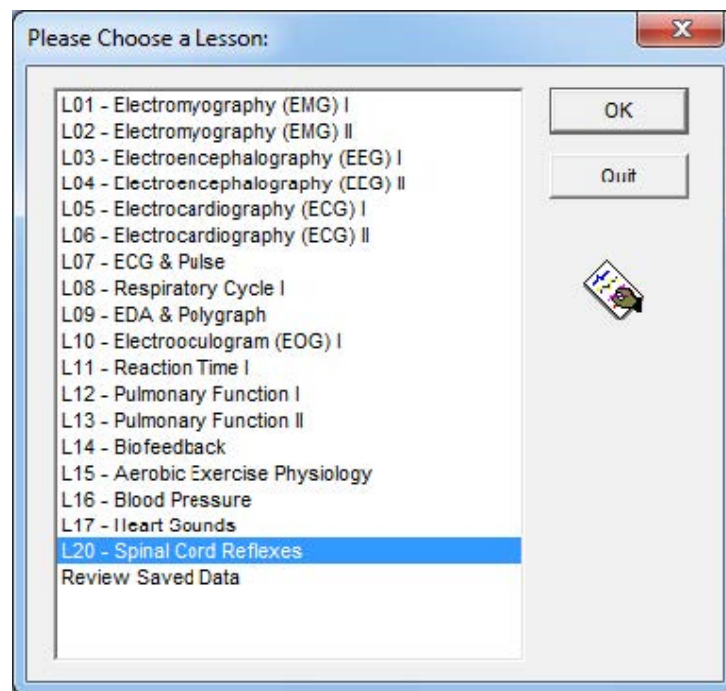

Figure 3: Select lesson L20 - Spinal Cord Reflexes
5. Open BIOPAC student lab lessons software and selection L20 - Spinal Cord Reflexes (see Fig. 3)